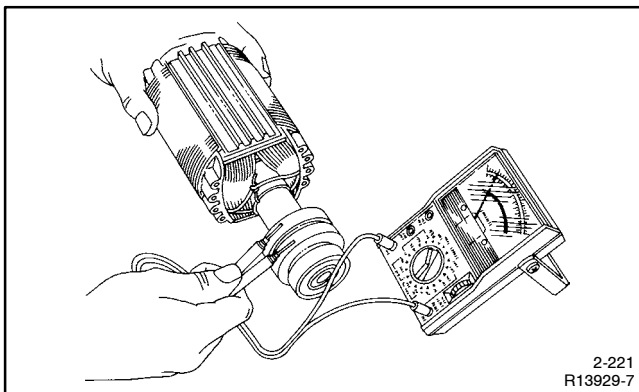

Figure 6-9 Rotor Resistance Check
5. Check the rotor for continuity and resistance. Raise the brushes from the slip rings while performing ohmmeter tests. Measure the rotor resistance (ohms) between the two slip rings; see Figure 6-9. See Section 1.3, Generator, for rotor resistance readings. If the resistance readings are low, perform a megohmmeter test on rotor as described in the next step.